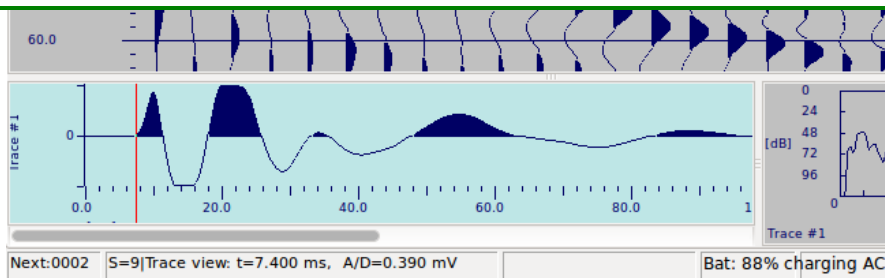

Figure 27 The red reference time marker
- Position a reference time marker (Figure 27)